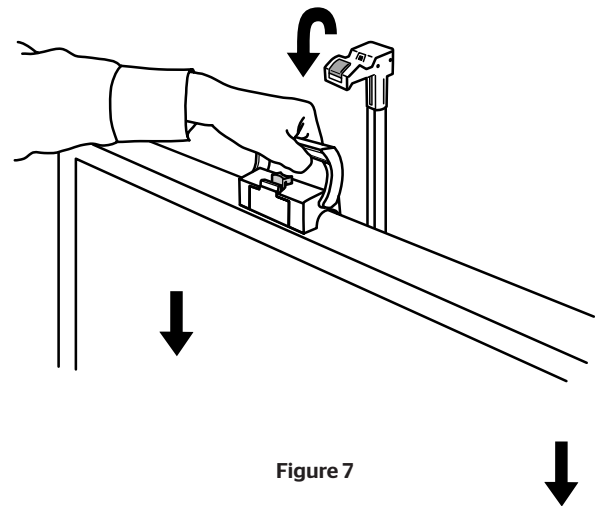

Figure 7
2. Remove the lifting handle from the hook and store the the screen in the case. Lower the screen, as straight as possible until it clicks and the screen is completely stored and locked in the case (Figure 7).